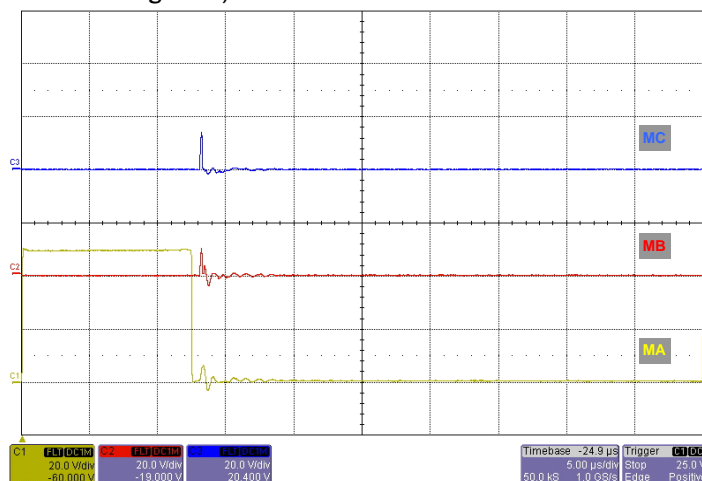

FIGURE 28. WAVEFORMS ON MA, MB, and MC WITH HA GROUNDED
- Figure 28 illustrates incorrect waveforms. There should not be any switching on MB and MC while MA is low. (At the very edge of MA falling, there may be a small amount of induced switching noise)